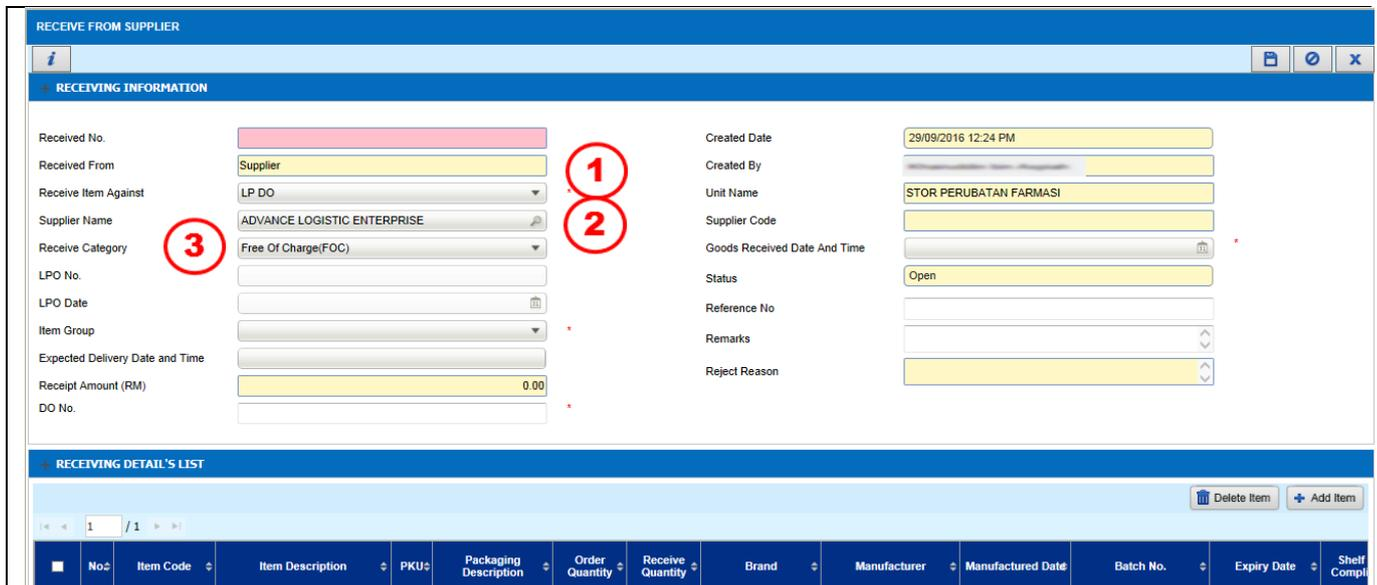

Figure 4.1.7-1 Receive from Supplier
- Refer to Figure 4.1.7-1 to create a new Receive from Supplier transaction.